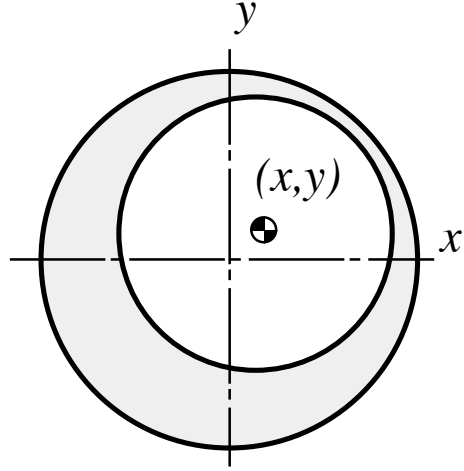

Figure 2: Whirling of a spindle with hydrodynamic bearing
2. This is a real problem that we encounter in our hard disk drive (HDD) vibration research. In the past, HDD used ball bearings generating a lot of noise and vibration. Currently, most HDD on the market adopt hydrodynamic bearings. Figure 2 shows a simplified model. The inner circle in Fig. 2 represents the shaft carrying all the disks, the outer circle in Fig. 2 represents the bearing sleeve, and the shaded area is the radial hydrodynamic bearing. Let's define a coordinate system xy with its origin attached to the center of the bearing sleeve. The motion of the shaft is then described by the coordinates x and y of the shaft center. The vibration of HDD spindles with hydrodynamic bearings is very complicated, but a simplified version of the equations of motion takes the following form.